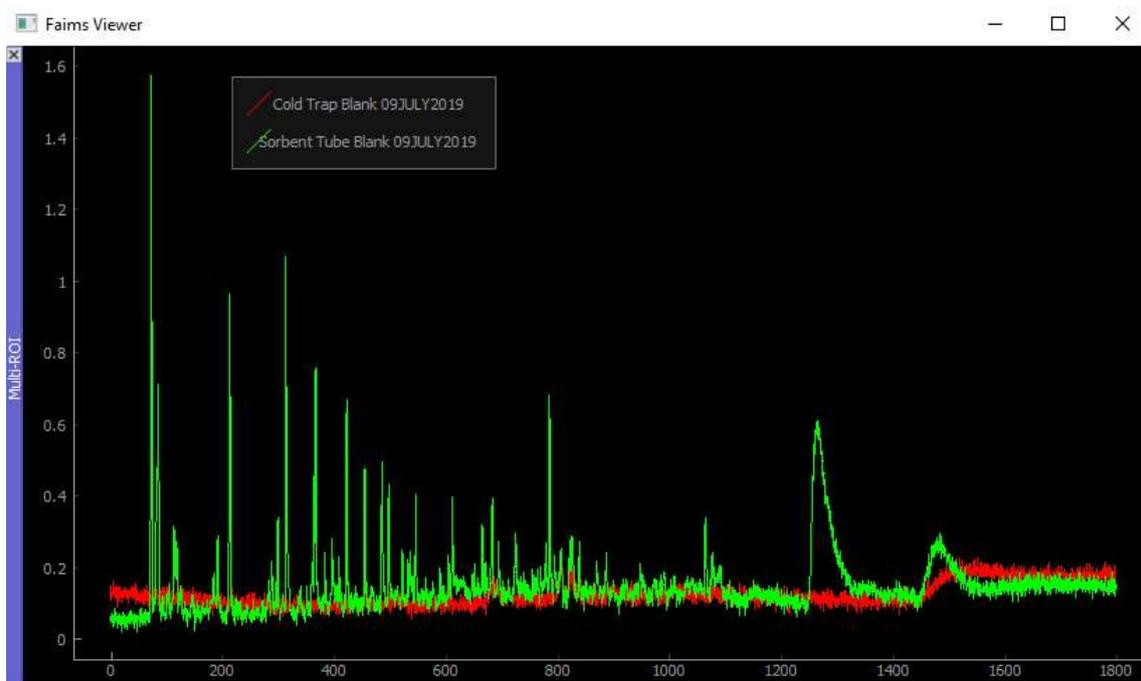

Figure 11. Overlays in FAIMS Viewer. Notice the difference in the Cold Trap Blank (red line) when rescaling the intensity axis (y).
- 3.3.3 Repeat the process to add new series to the Multi-ROI plot (Figure 11). Maintain the same of when adding more chromatograph series. This also applies for the negative mode. Note: when loading the second matrix, it is required to return the 3D Visualization back to “time” and then to “dispersion field” it is also required to right click down so that the menu.